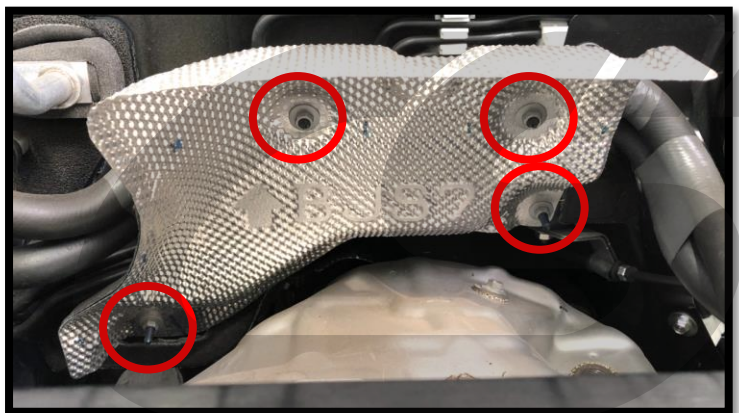

Figure 2e
- g) Remove the four 10mm nuts that attach the upper heatshield to the firewall. Then remove this heatshield. Nuts shown **circled in red** in **Figure 2e**.